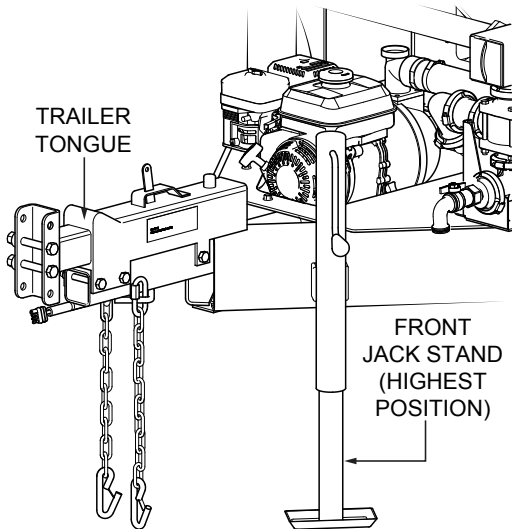

Figure 23. Raising Trailer Tongue
2. Place unit on a level surface and raise trailer tongue by placing front jack stand to the highest position (Figure 23).